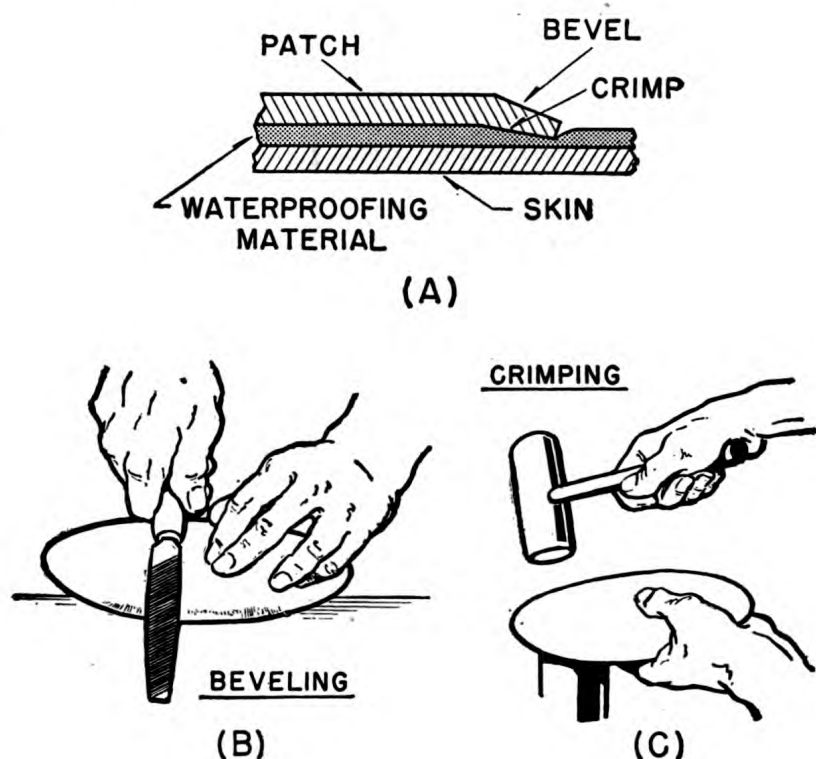

Figure 118.—Crimping and beveling.
You should bevel the edges of the lap patch down to approximately HALF the metal thickness. The edges should also be crimped to about 15° to provide a tighter fit for the patch. You can do the crimping on either a crimping machine or with a mallet. Do the beveling with a file. Figure 118 (A) shows the assembled patch while (B) and (C) show how beveling and crimping are done.